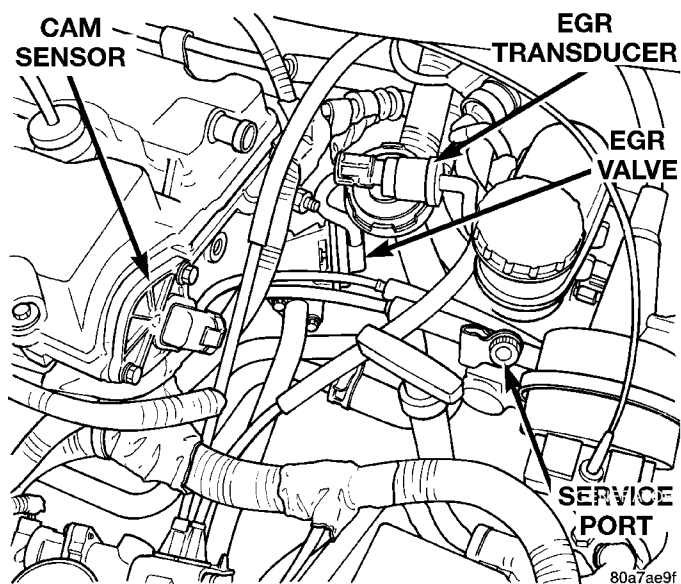

Fig. 43 Electronic EGR Transducer
(16) Check the electrical connector at the Electronic EGR Transducer. Inspect the vacuum and back pressure hoses at the solenoid and transducer for leaks (Fig. 43).